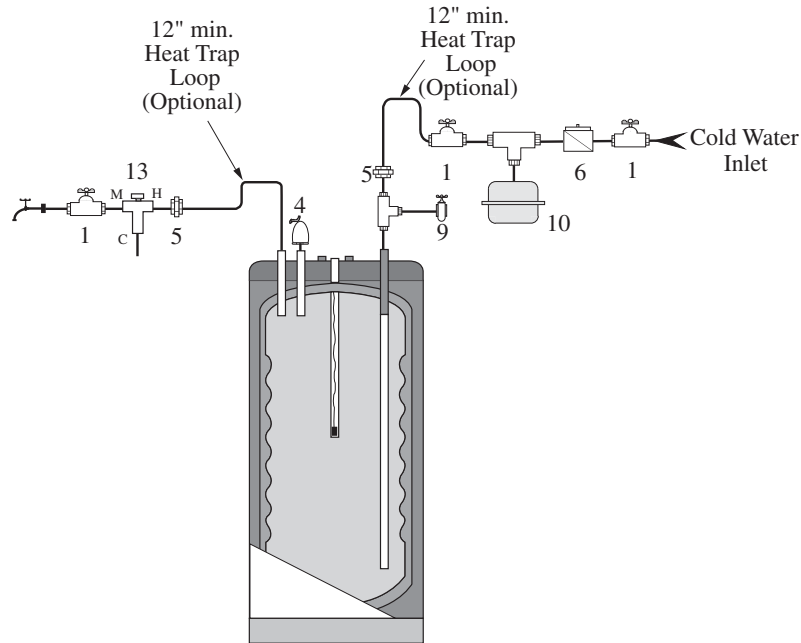

Figure 3.1: Peerless® Partner® Recommended Installation: Domestic Water Piping
- a. Install a tee connection at the domestic cold water inlet (Fig. 3.1 and 3.2).
1. For domestic water piping diagrams, see Figures 3.1 through 3.4.